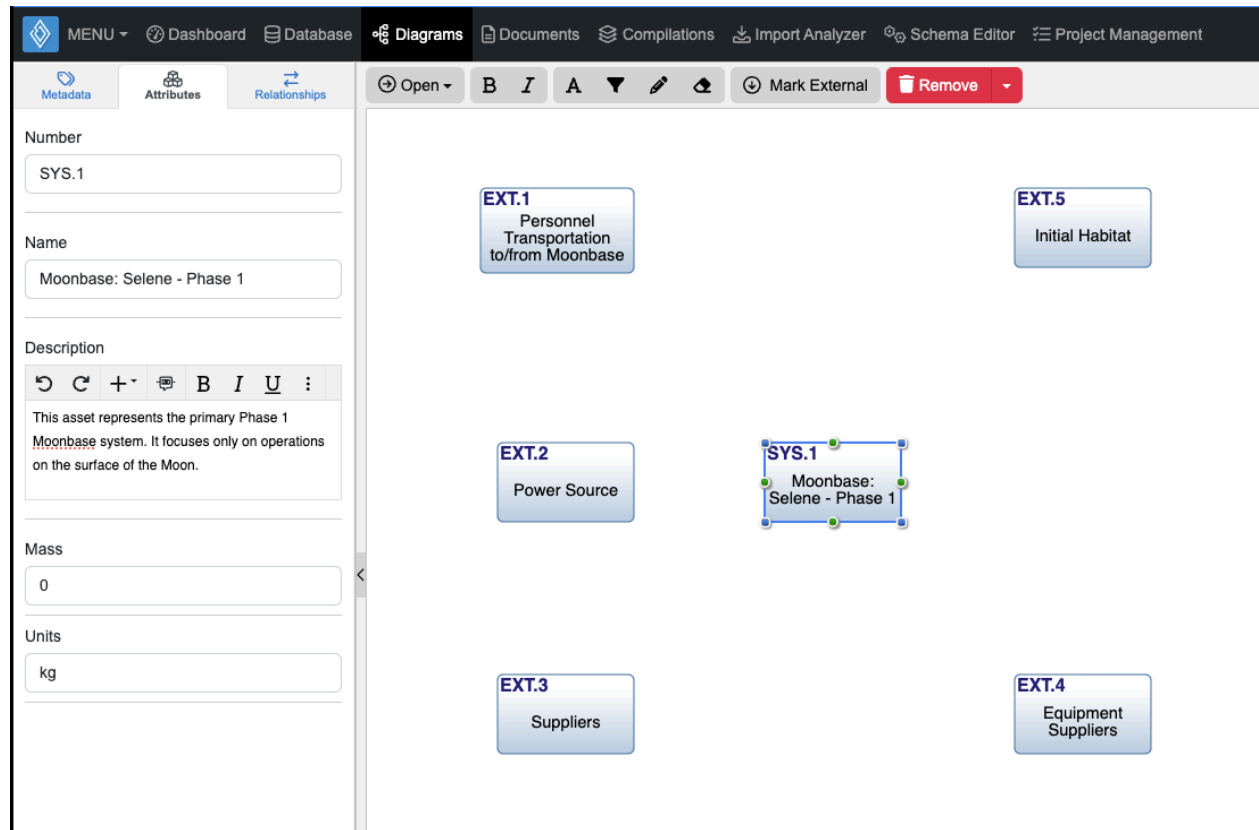

Figure 18. Beginning Physical I/O Diagram
- Note: Your goal will be to match the diagram that’s shown below in Figure 18.